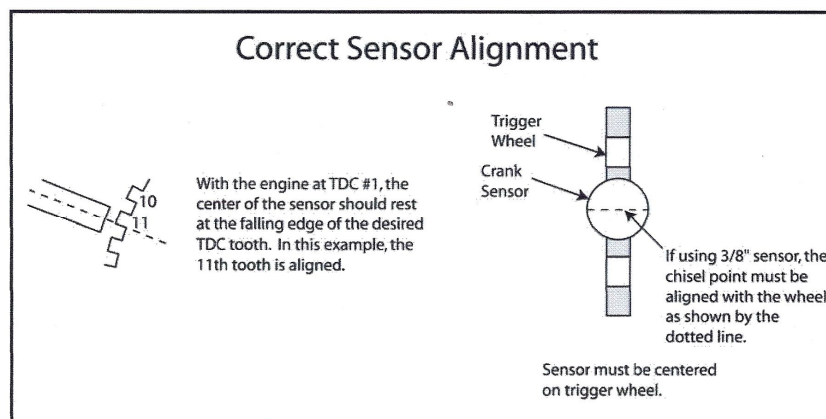

Figure 12: Correct Sensor Alignment
- l. Remove the dowel/pop rivet assembly from the pick-up holder and install the magnetic pick-up. Using a feeler gauge or equivalent, set the gap to 0.024 inches. Once the gap between the timing teeth and the magnetic pick-up is set, apply a thin coating of Loctite #242 to the set-screws, insert them into the pick-up holder, and tighten them down. Remove the feeler gauge. **NOTE:** The tip of the sensor is a “Chisel Point”; this chisel must be positioned so that it is perpendicular to the plane of the trigger, or so that the chisel is parallel to the line of flight. See Figure 12.